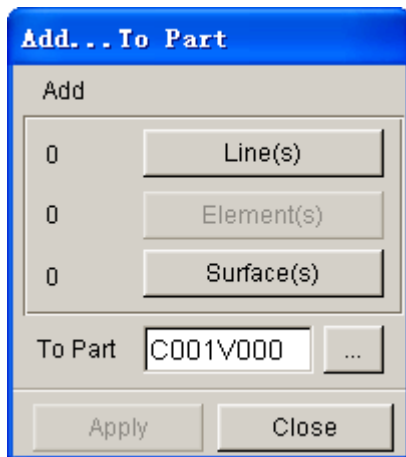

Figure 6.1.2 Select Flange Surface
This function allows the user to read in CAD model or finite element model. If the imported CAD data is a solid model with thickness information, the user can use MIDDLE SURFACE or SEPARATE SURFACE function to generate the desired surfaces. Then use UNFOLD FLANGE function to unfold the flange on the generated surfaces. In addition, the user can also use SURFACE EDIT or SURFACE SPLIT function to add the flange to a new part. Once the user clicks on the ADD button in FLANGE group, a dialog box as shown in Figure 6.1.2 appears. Click on SURFACE(S) to select flange surfaces, and then enter a part name